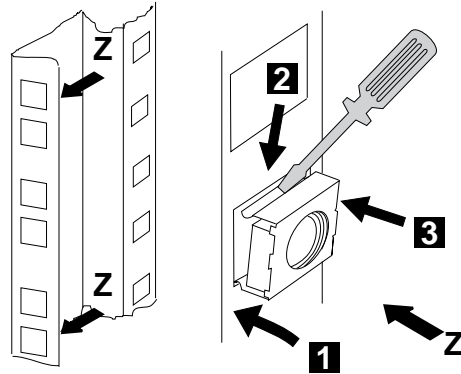

Figure 1-12. Installing the Captive Nuts for the 7585
15. ____ Refer to Figure 1-12, install four captive nuts (PN 58G5766) on the left and right side of the controller expansion.